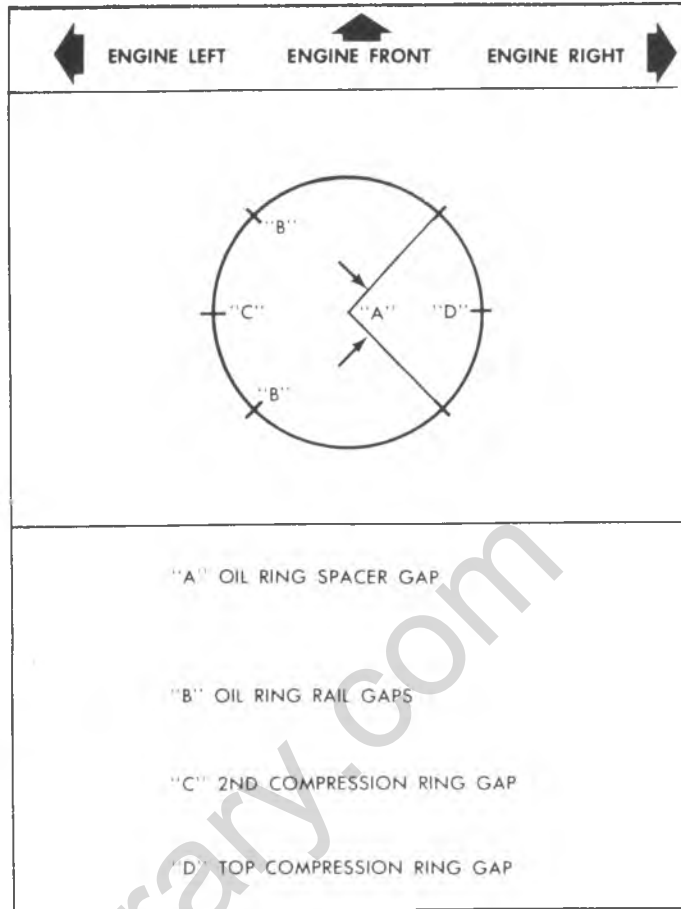

Fig. 6A1-42--Ring Gap Location
8. Install piston rings as follows (fig. 6A1-42):